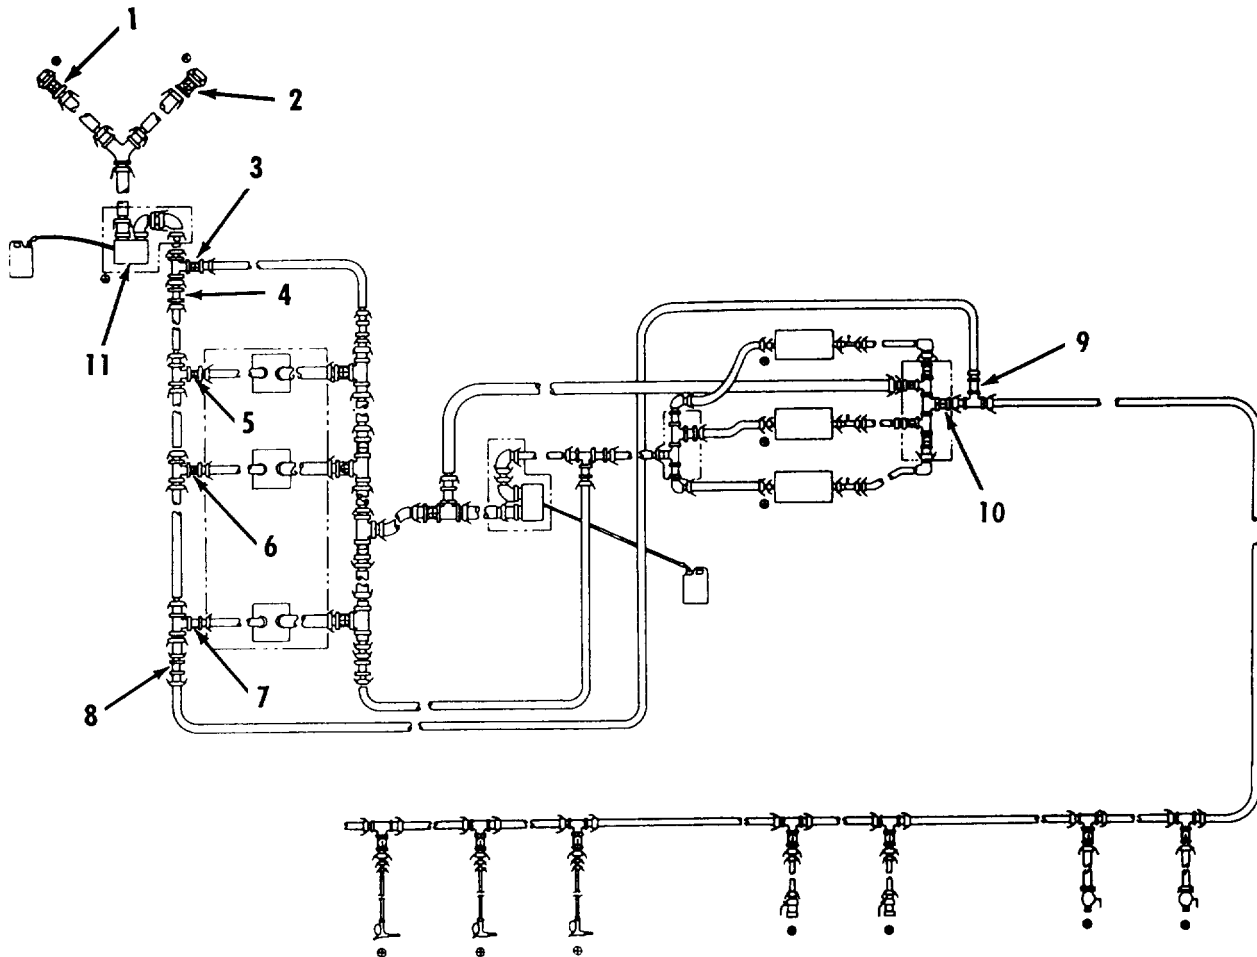

Figure 2-40. Refuel Mode - Fuel Tank, Secondary 600 GPM Pump and 200 GPM Filter Separators Bypass.
- (10) **Refuel Mode - Fuel Tank. Secondary 600 GPM Pump and 200 GPM Filter-Separator Bypass.** Refer to figure 2-40.